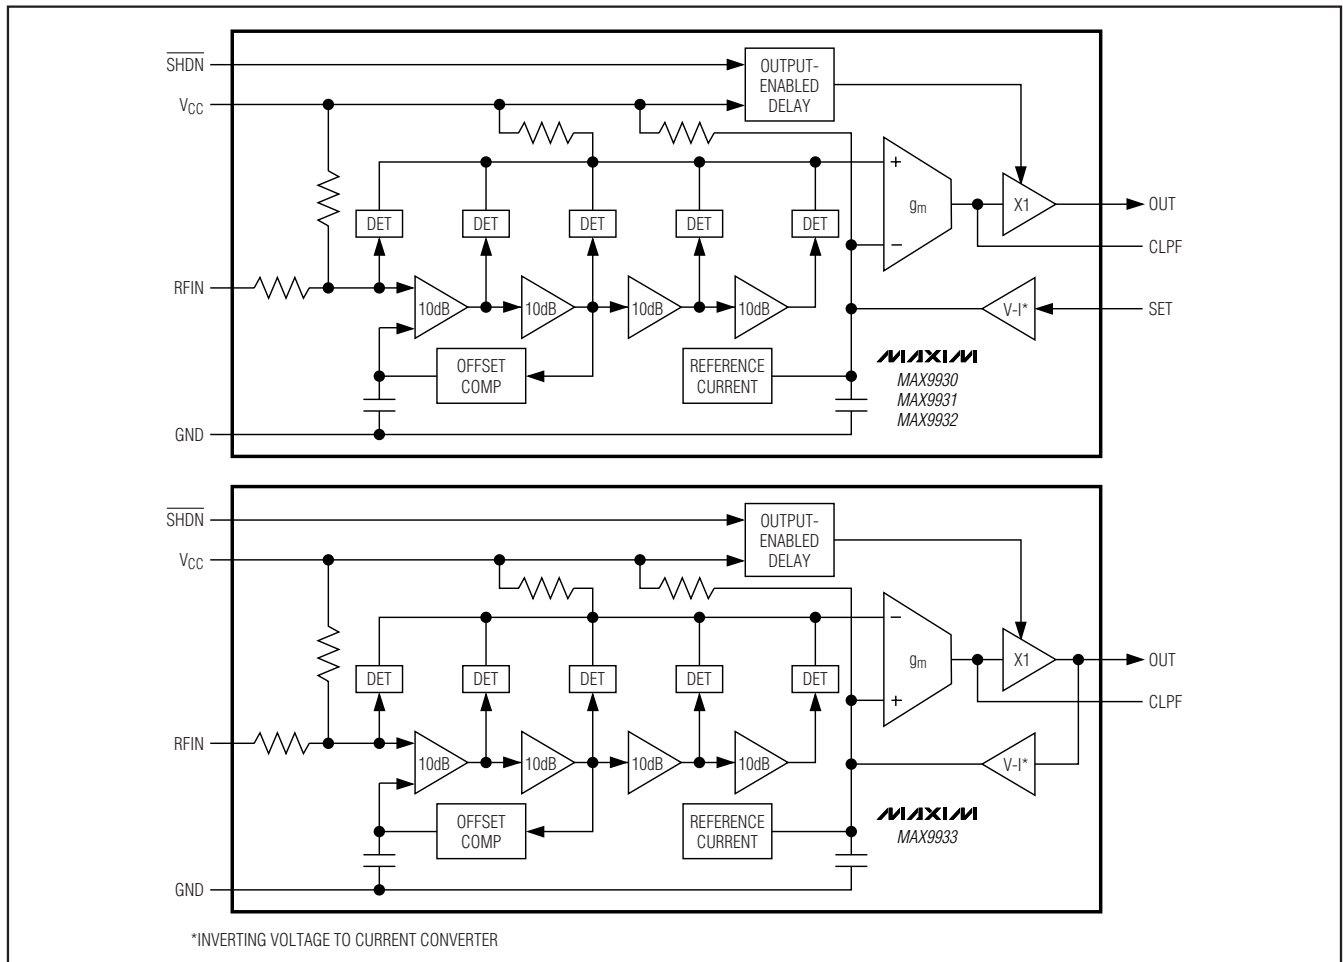

Figure 1. Functional Diagram
- Note 3:** Set-point slew rate is the rate at which the reference level voltage, applied to the inverting input of the g_m stage, responds to a voltage step at the SET pin (see Figure 1).
The MAX9930-MAX9933 family of logarithmic amplifiers (log amps) comprises four main amplifier/limiter stages each with a small-signal gain of 10dB. The output stage of each amplifier is applied to a full-wave rectifier (detector). A detector stage also precedes the first gain stage. In total, five detectors, each separated by 10dB, comprise the log amp strip. Figure 1 shows the functional diagram of the log amps.